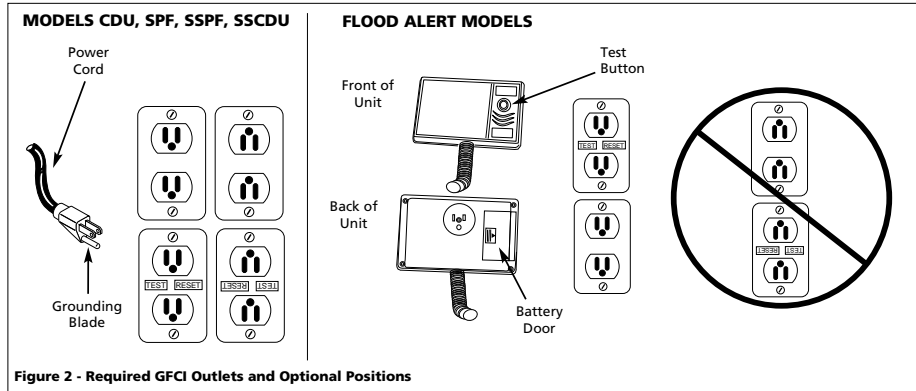

Figure 2 - Required GFCI Outlets and Optional Positions
FLOOD ALERT MODELS (SEE FIGURE 2)
1. A ground fault circuit interrupter (GFCI) is required (See Figure 2).
3. Insert the pump power cord plug directly into outlet (See Figure 2).
1. Unit should be plugged into outlet as shown in Figure 2. Do NOT plug unit in upside down. Doing so may cause pump to unplug. If your receptacle is upside down, have a qualified electrician reposition the outlet before installing the unit.
3. Conecte el enchufe del cordón eléctrico directamente al tomacorrientes (Vea la Fig. 2).